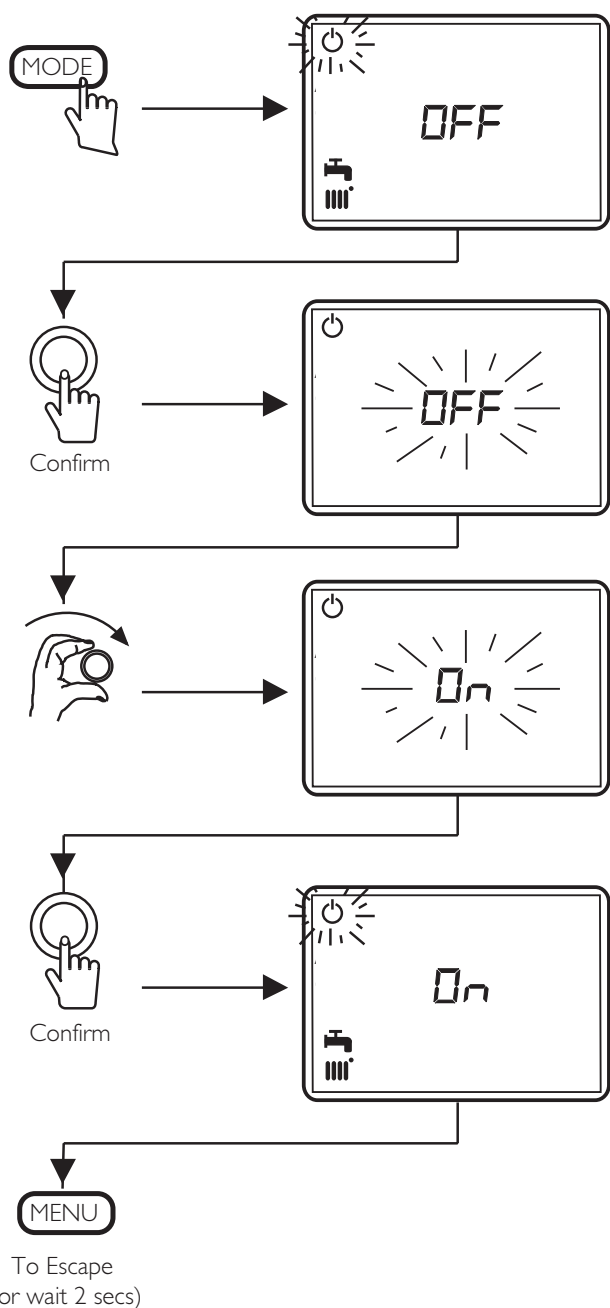

Fig 21. Standby & Operating Mode Diagram
1. To change the unit's settings, follow the flow diagram shown in Fig 21.